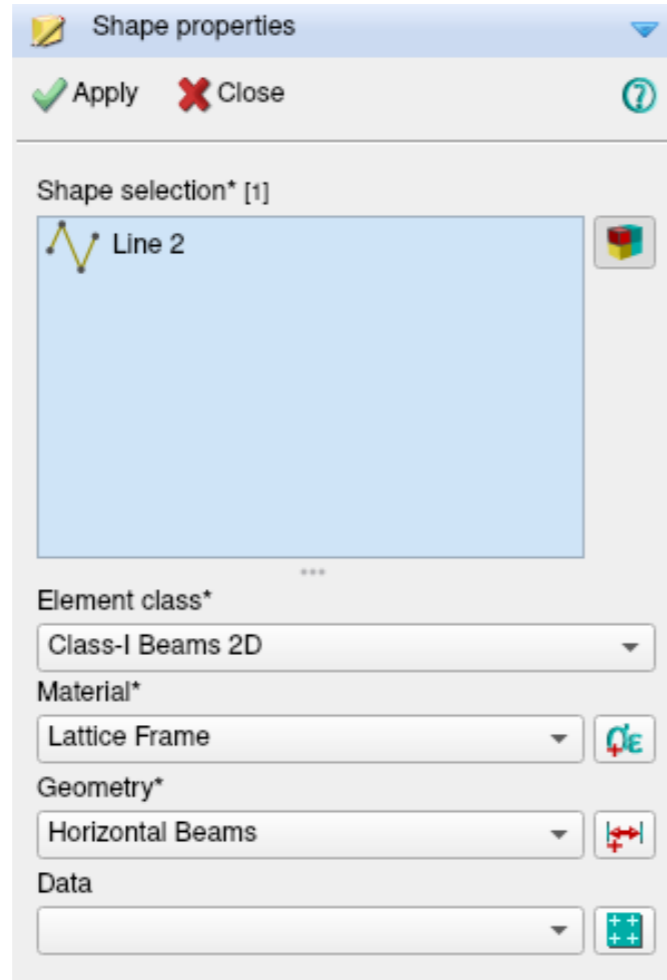

Figure 14: Property assignments horizontal beam
**Main menu** → Geometry → Assign → Shape properties  [Fig. 14]